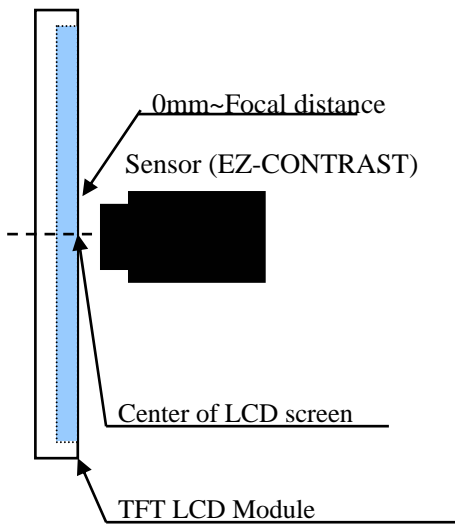

Fig.9-1 Measuring setup for Viewing angle and Contrast ratio (BM-7 is used for contrast.)
* The optical characteristics measurements are operated under a stable luminescence (I_{LED} = 20mA) and a dark condition. (Refer to Fig.9-1)